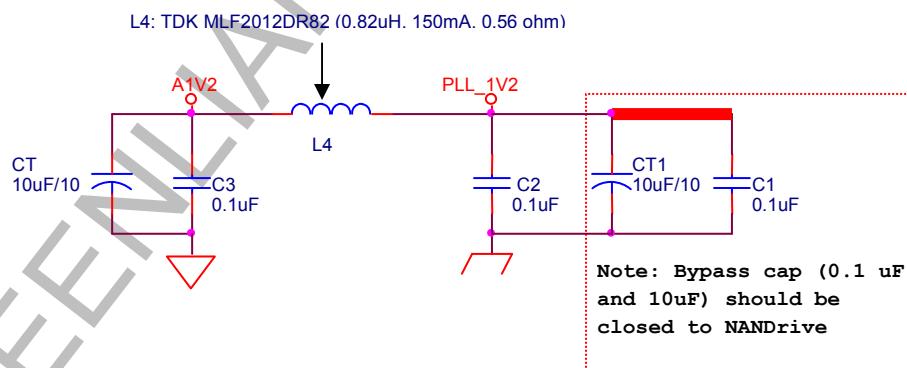

Figure 2: Recommended Pi Filter for System PLL power
- PLL, as analog power source, also needs to have “Pi filter” between the digital and analog 1.2V to filter power noise as shown in Figure 2. Use wider trace layout with multiple via placed is recommended. For better isolation from the high speed SATA signals, PLL power is recommended to come from A1V2.